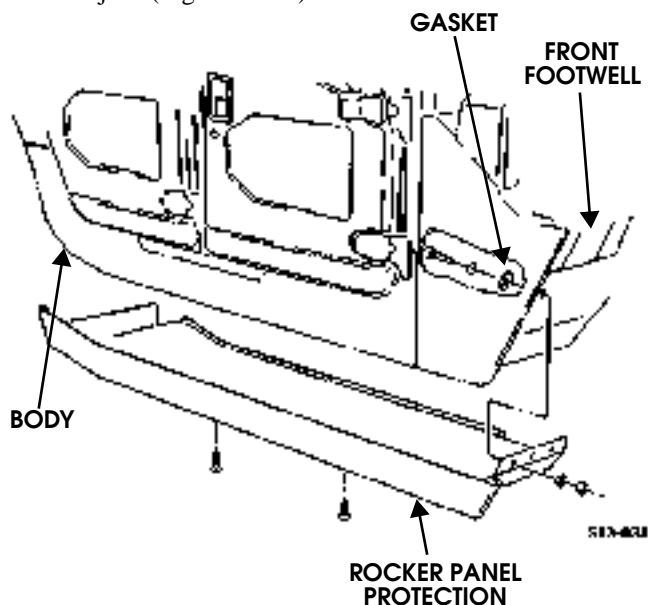

Figure 13-40: Rocker Panel Protection
3. Remove nine hex-head screws securing rocker panel protection to body. Support rocker panel protection with floor jack (Figure 13-40).
3. Secure rocker panel protection to front footwell with three gaskets, washers, bolts, washers, and nuts. Do not tighten nuts (Figure 13-40).
4. Install spacer between rear footwell and rocker panel protection if necessary. Tighten nuts at front and rear footwells to 37 lb-ft (50 N•m) (Figures 13-40 and 13-41).
5. Remove floor jack and secure rocker panel protection to body with nine hex-head screws. Tighten hex-head screws to 37 lb-ft (50 N•m) (Figure 13-40).